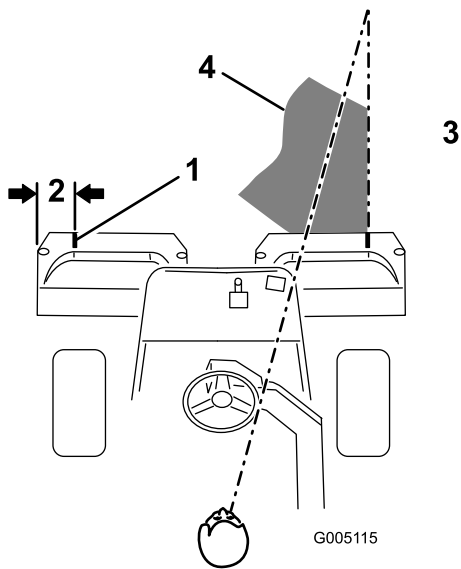

Figure 9
- Either place a strip of white tape or paint a line onto each basket paralleling the outer edge of each basket (Figure 9).